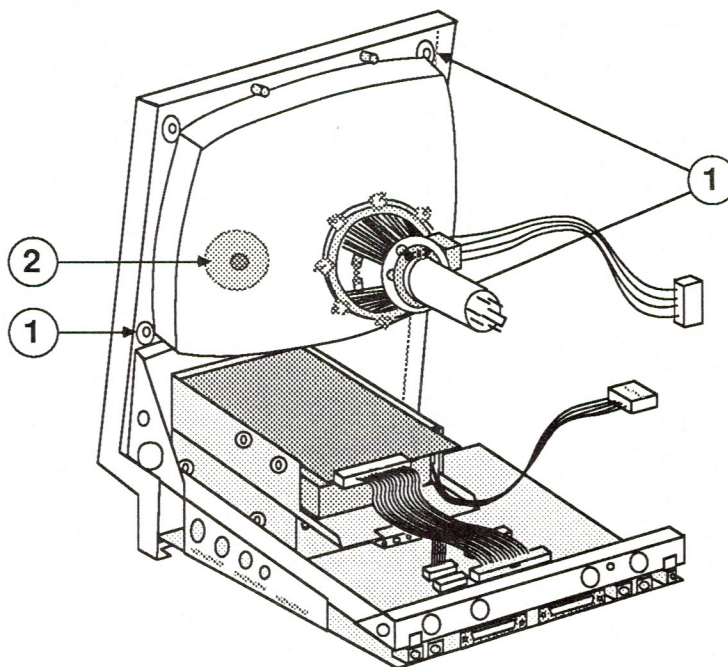

FIGURE 20
6. Using the Torx screwdriver, remove the three remaining mounting screws from the corners of the CRT (Figure 20, #1).
1. Place the CRT face down in the bezel, with the anode aperture (Figure 20, #2) on the left, as shown.
2. Replace the three CRT mounting screws shown in Figure 20, #1.